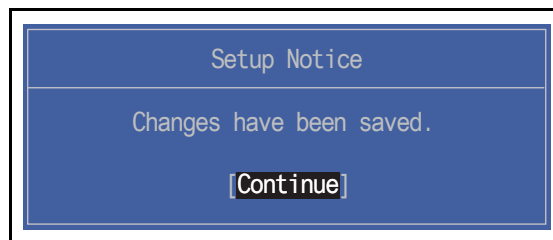

Figure 2-9. Changing a Password: Setup Notice
5. If new password and confirm new password strings match, The Setup Notice dialog is shown (Figure 2-9). If it is not shown, go to step 6.